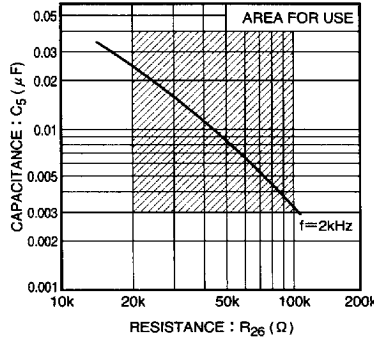

Fig. 7 Value of external components for oscillator (V_{CC} = 5.0V)
- 3) The external resistor R26 connected to the oscillator (pin 28) should be in the range of 20kΩ and 100kΩ. If it is outside this range, oscillation may stop due to the influence of temperature (see Fig. 7).